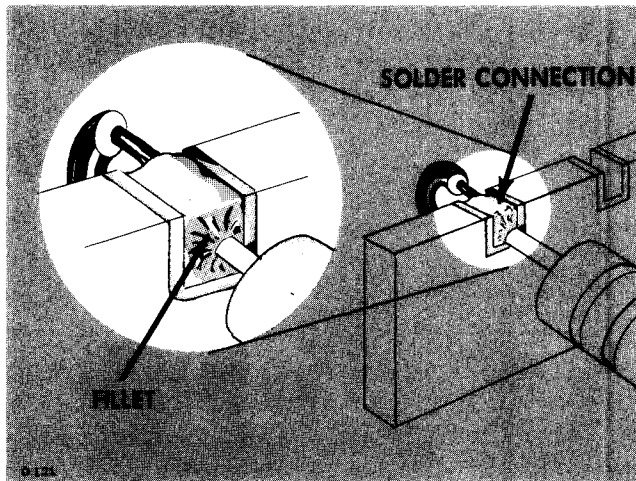
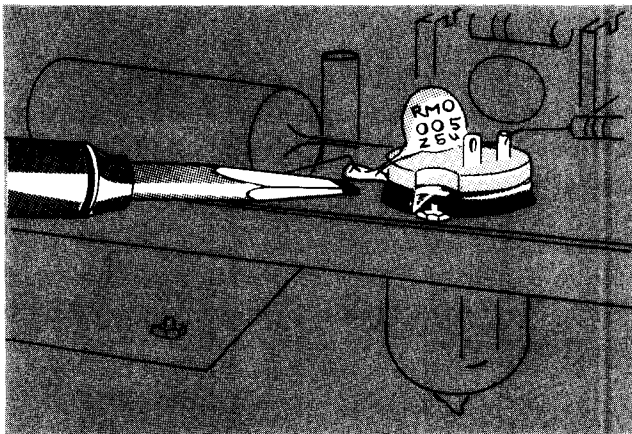

Fig. 4-3. A slight fillet of solder is formed around the wire when heat is applied correctly.
Fig. 4-4. Soldering to a terminal. Note the slight fillet of solder--exaggerated for clarity--formed around the wire.
6. Do not attempt to fill the notch on the strip with solder; instead, apply only enough solder to cover the wires adequately, and to form a slight fillet on the wire as shown in Fig. 4-4.
be soldered as shown in Fig. 4-3. Use only enough heat to allow the solder to flow freely along the wire so that a slight fillet will be formed as shown in Fig. 4-4.